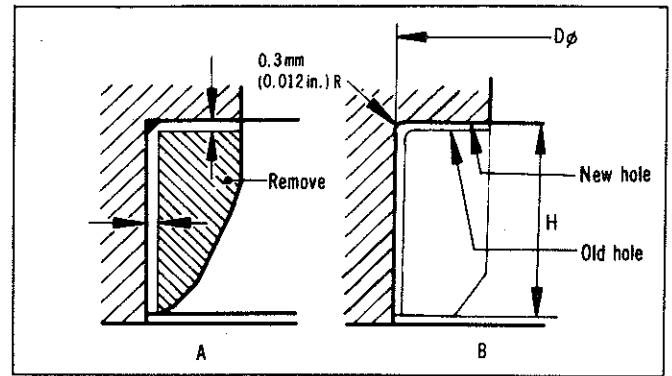

Fig. 28—Replacing valve seat insert
(1) Thin down the valve seat insert by cutting, with a suitable cutter, to within 0,5 to 1,0 mm (0.020" to 0.040") of the cylinder head. Refer to Fig. 28 (A).
(2) Remove the valve seat insert and cut the seat insert bore diameter and height to the dimension shown in specifications, Refer Fig. 28 (B) .
(3) Heat the cylinder head to 250°C (480°F) and press in the new valve seat insert.
(4) Cut the insert to form a new seat as described in Re-cutting Valve Seat.